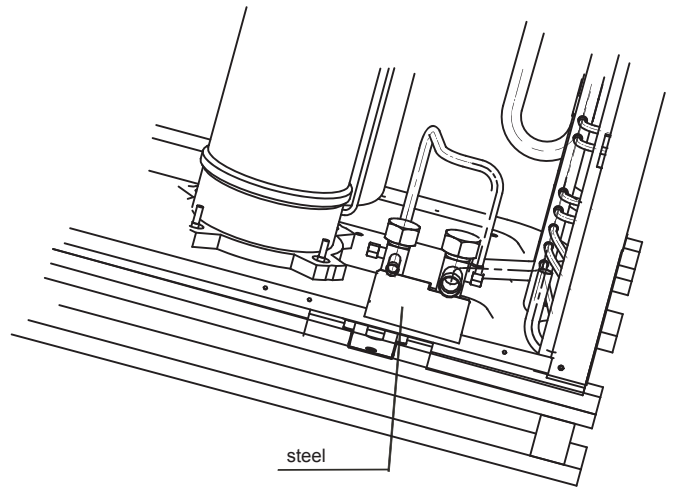

Fig.4-7
- As shown in Fig.4-7, when brazing the indoor and outdoor connective lines, pad a sheet metal under the valve avoids the flame burning the chassis.